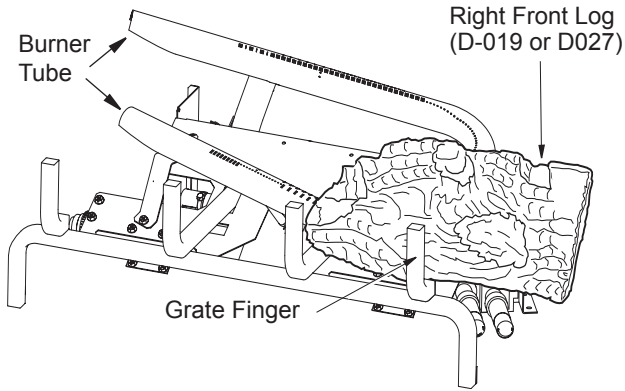

Figure 17 - Installing Right Front Log
1. Find the right front log (LMF42-SC: D-019 or LMF48-SC: D027). See Figures 17, 17A, 17B, and 17C for reference. The log has a rectangular shape on the bottom that fits against the lip on the black metal base, the square grate, and the round tube burner. Slide the log in place as shown in Figures.